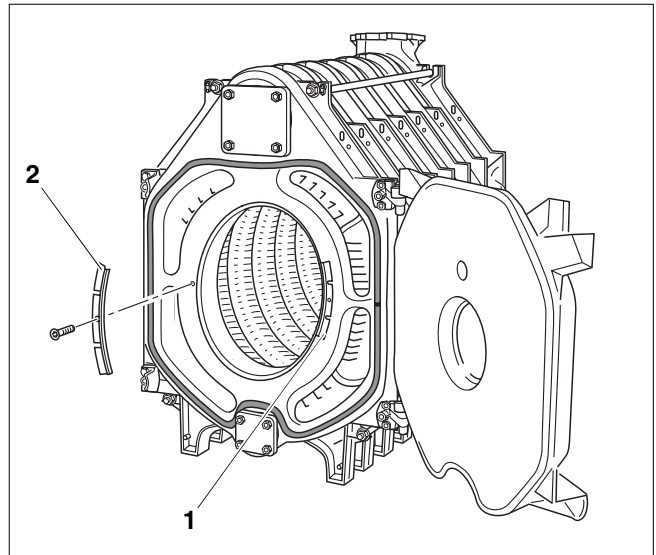

Fig. 30 Positions of hot-gas blanking plates
Hot-gas blanking plates (Fig. 30, **ref. 1 and 2**) are screwed to the front section with one socket screw each.